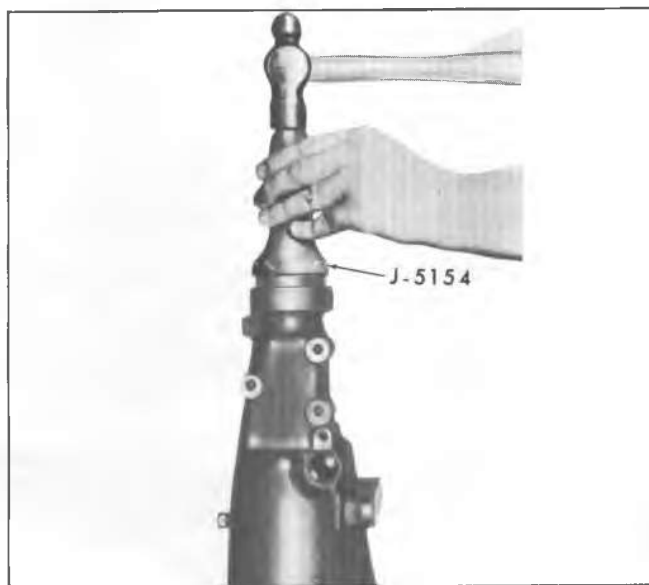

Fig. 7B-13J--Installing Extension Oil Seal
4. Install synchronizer hub to mainshaft snap ring (Fig. 7B-7J). Both synchronizer snap rings are identical. Turn the rear of the mainshaft upward. Install the following components on the mainshaft: